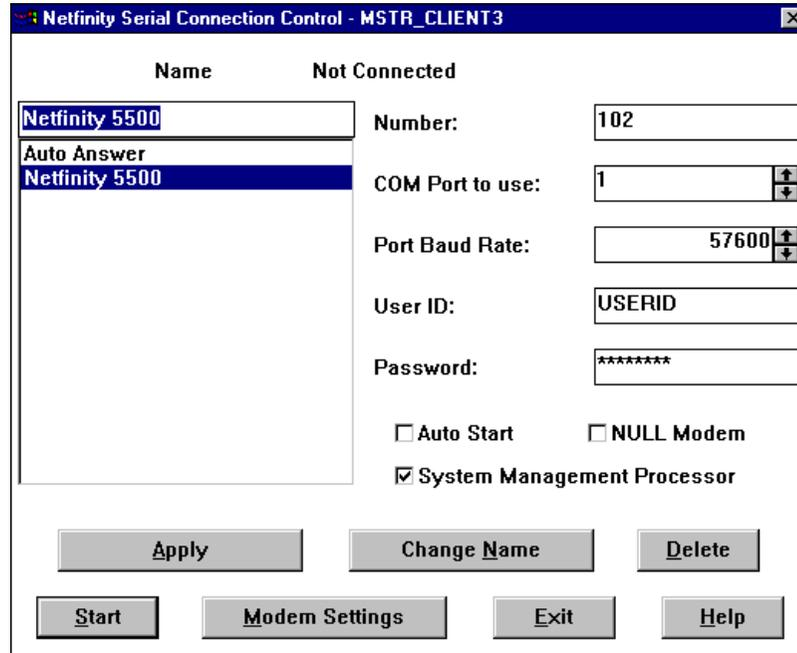

Figure 198. Serial Control Settings
1. Open the **Serial Connection Control** window in Netfinity Manager. Figure 198 appears: